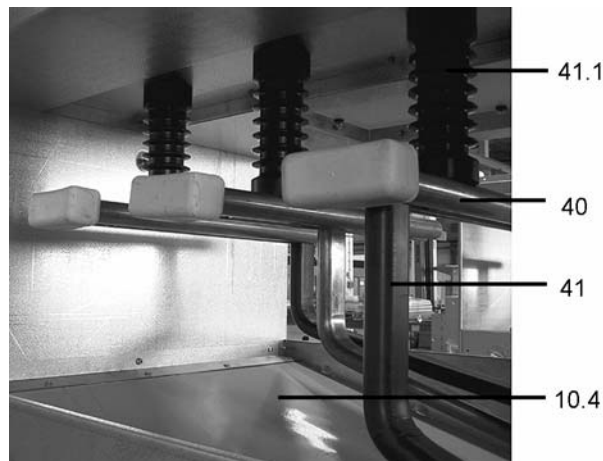

Figure 3.3
1) Busbar compartment (1) (see Figure 3.3).